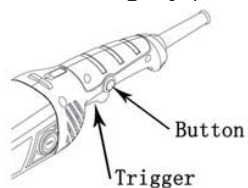

Figure 6
- 2) Start the tool by pressing the button of on/off switch, then pressing the trigger of on/off switch down slightly. (See figure 6)